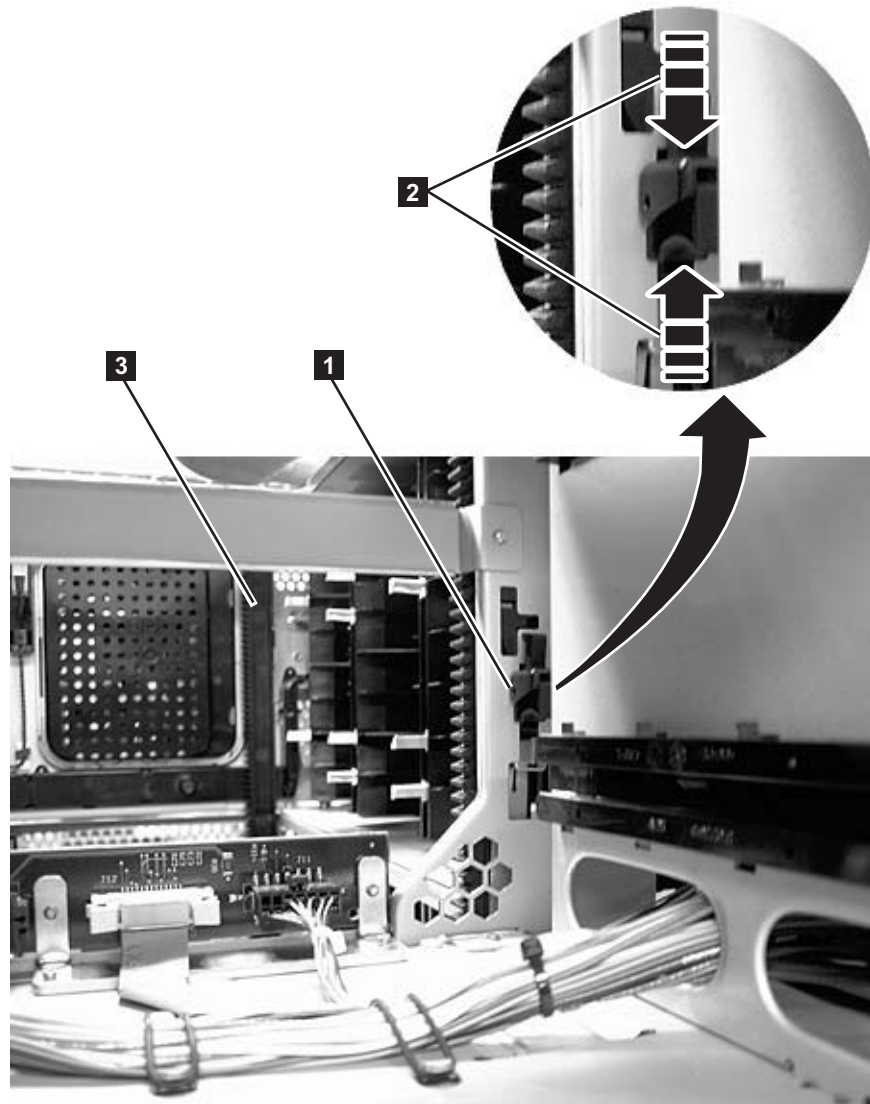

Figure 12-2. Gear racks and gear rack locking mechanism
3. Disengage the rear (**1** in Figure 12-2) and front (**3** in Figure 12-2) gear racks in the control module. While pinching the gear rack locking mechanism (**2** in Figure 12-2) , push the gear rack up until it locks in place.